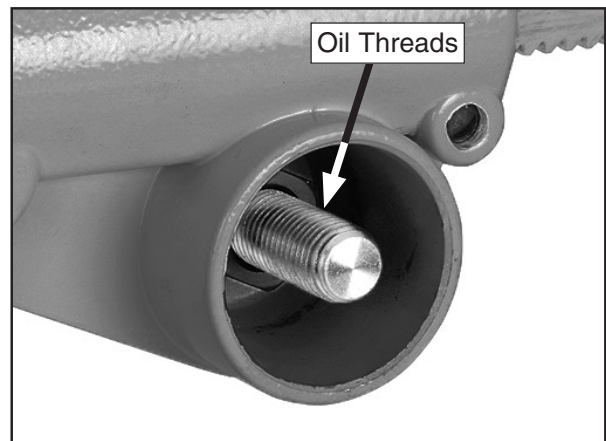

Figure 12. Arm bracket handle threads.
- Lightly oil the T-handle threads shown in **Figure 12**.